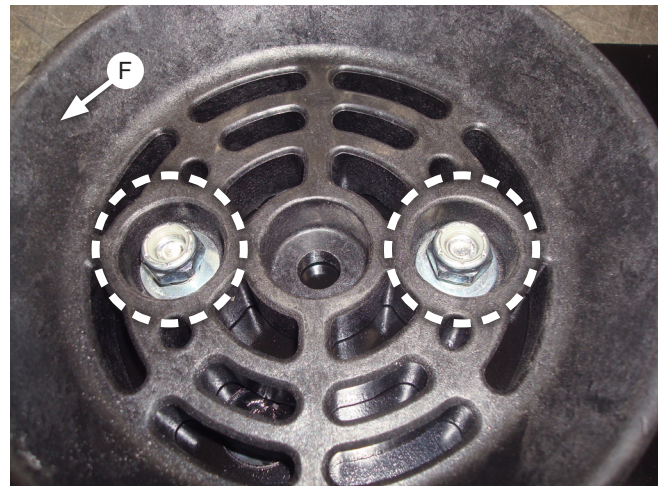

Fig. 13
7. Flip the bracket over and set a cradle (F) over the tapered screws (circled). Cap with the 3/8" flat washers and 3/8" thin nylon lock nuts supplied with the 52500 cradle kit (Fig. 13). Torque to 15 lb.-ft. (20Nm). Repeat step 6 for the right (passenger's) side assembly.